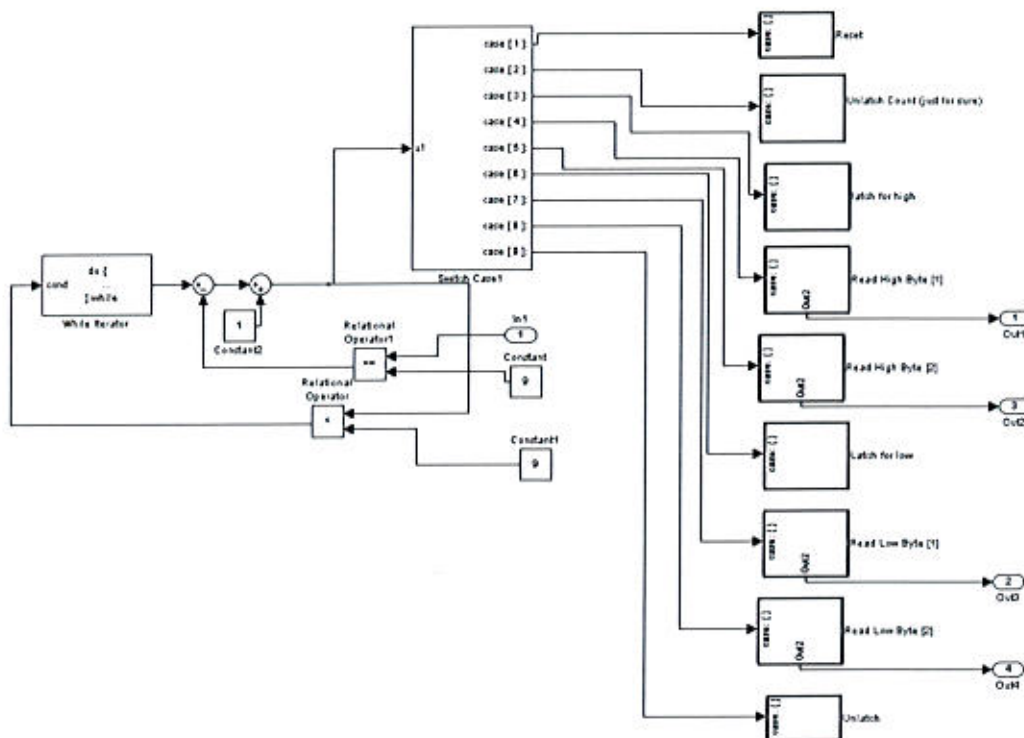

Figure 38 Feedback Encoder Block - Reading Values From Encoders
- 5) set IOE line to high (Figure 38).
- Digital Output or Digital Input blocks are placed in the Action blocks presented in Figure 38.